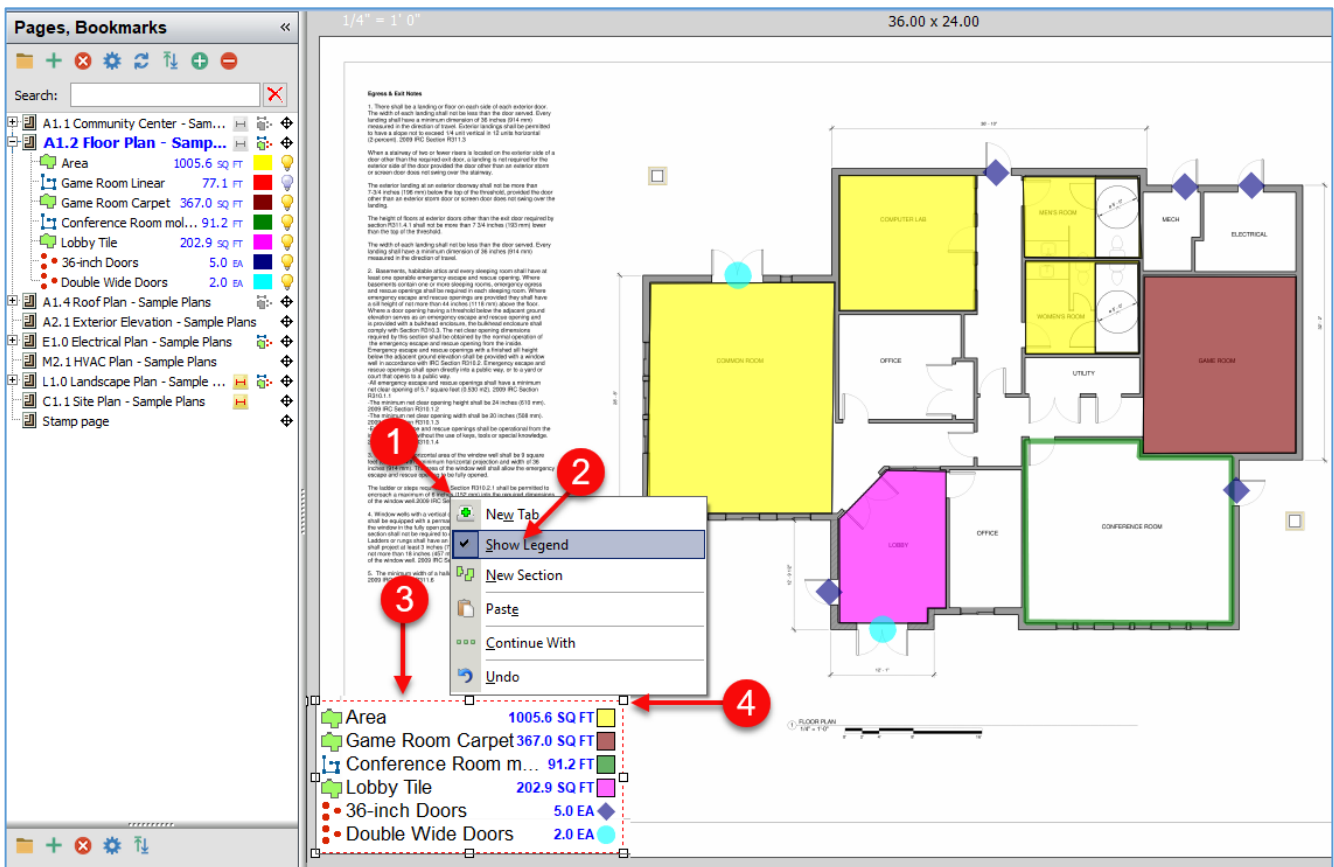

Figure 27-A
1. Right-click on any non-takeoff area on the page (Fig. 27-A).